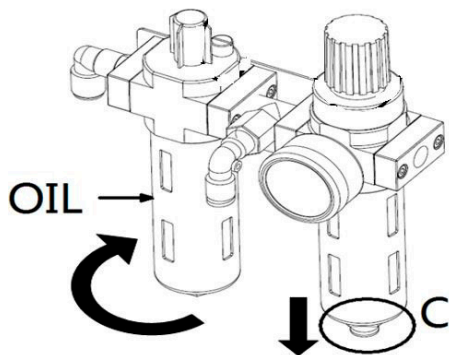

FIG 40
- Periodically check the height of the in the oil fogger. If it is lower than the oil scale, please fill in the SAE30 grease. Periodically drill out the water and impurity in the oil-water separator. (**Fig40**)